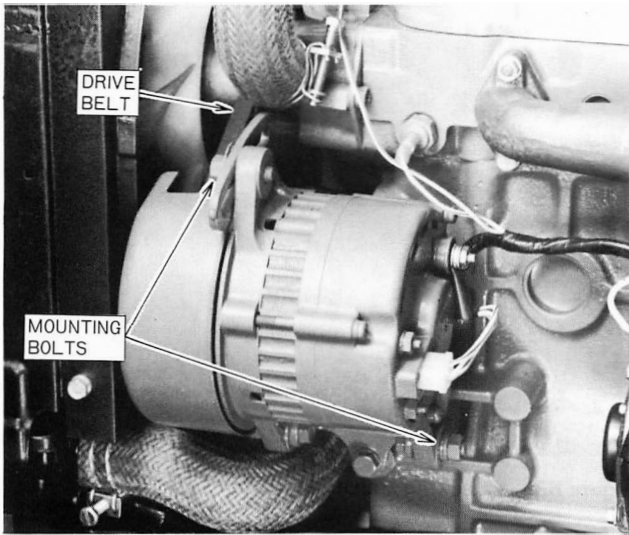

Figure 50 – Alternator Mounting Bolts
1. Loosen the alternator mounting bolts, Figure 50.